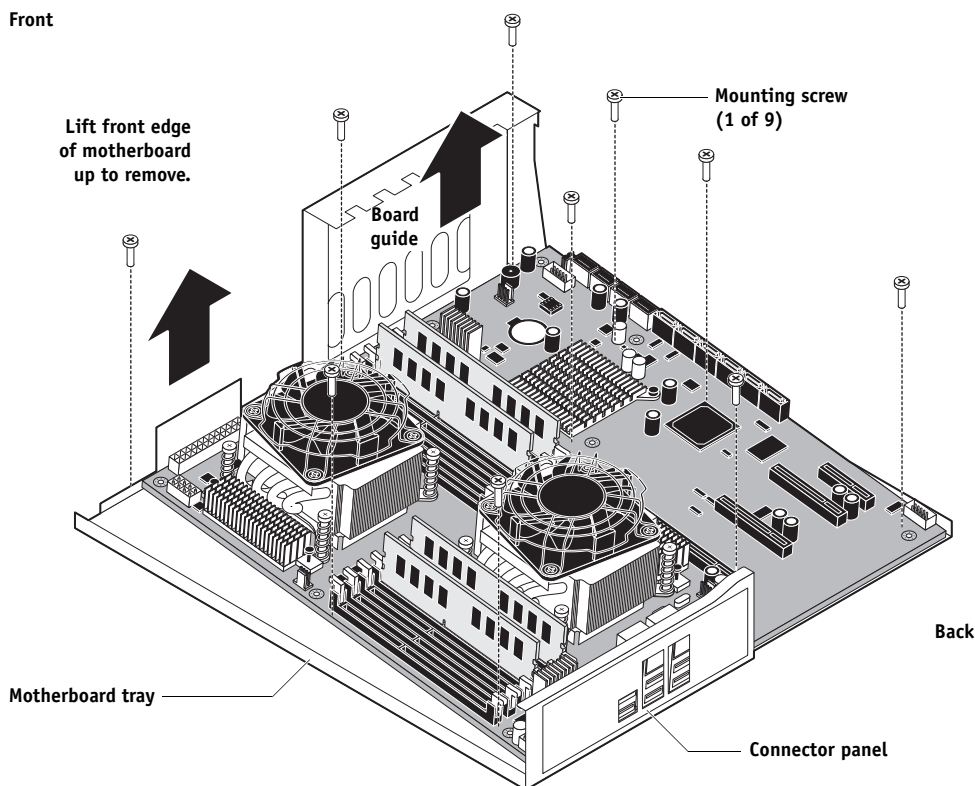

FIGURE 28: Removing the motherboard from the tray
1. Remove the nine mounting screws that secure the motherboard to the motherboard tray (see Figure 28).
3. Angle the motherboard so the back panel connectors on the motherboard fit into the cutouts in the connector panel of the motherboard tray (see Figure 28 on page 83).
6. Insert the nine motherboard mounting screws that attach the motherboard to the motherboard tray (see Figure 28 on page 83).